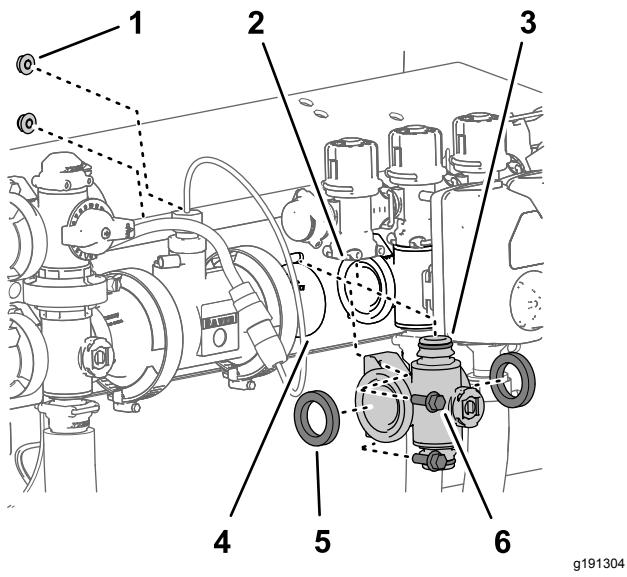

Figure 114
4. For left or right section-valve manifolds, remove the 2 flange-head bolts (1/4 x 3/4 inch) and 2 flange locknuts (1/4 inch) that secure the section-valve manifold to the valve support (Figure 114).
5. Move the section-valve manifold and gaskets down to clear the section-bypass valve and then away from the machine (Figure 114).